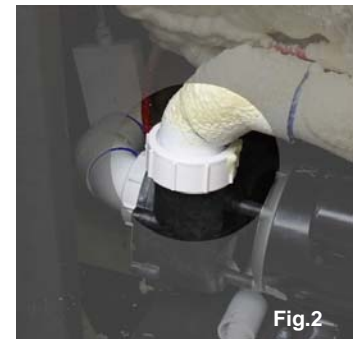

Fig.2
4. Check the heater unions, pump unions (Fig.2), and pump plugs to assure that they are tight to prevent the possibility of leakage in the equipment bay.